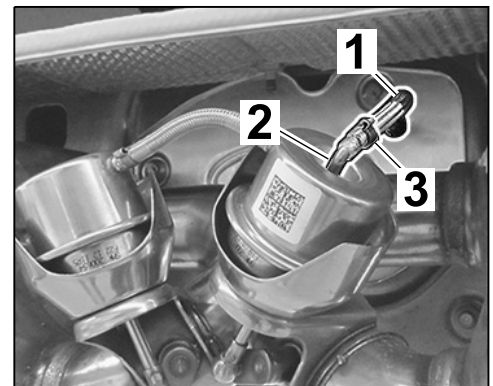

Figure 46
- 5.12 Fit 190-mm steel flexi-pipe ⇒ *Figure 46 -1-* on the vacuum unit connection ⇒ *Figure 46 -2-*.
Lock single-lug clip ⇒ *Figure 46 -3-*.